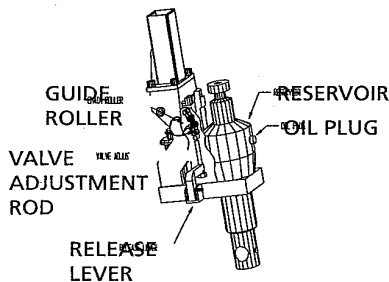

Figure 2 - Handle Installation Detail
2. Mount the steering handle from behind the pallet truck with the control lever pointed to the right. Feed the valve adjustment rod (See Figure 2) through the handle mounting pad between the chain roller and the reservoir. Using the previously removed cap screws, secure the handle to the mounting pad.
4. Verify that the oil plug (See Figure 2) is secured.